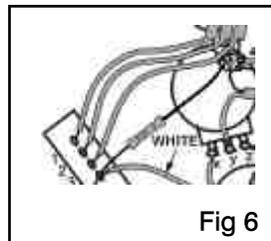

Fig 6
- e If the sound of the instrument is felt to have too much high frequency content (ie a "glassy" or "brittle" sound), this can be "tamed" by connecting a 1M resistor (supplied) between the input of the Activator module (The white wire) and earth as shown in fig 6. This will partially restore the loading effect of the guitar's controls, introducing a gentle high-frequency "roll-off".